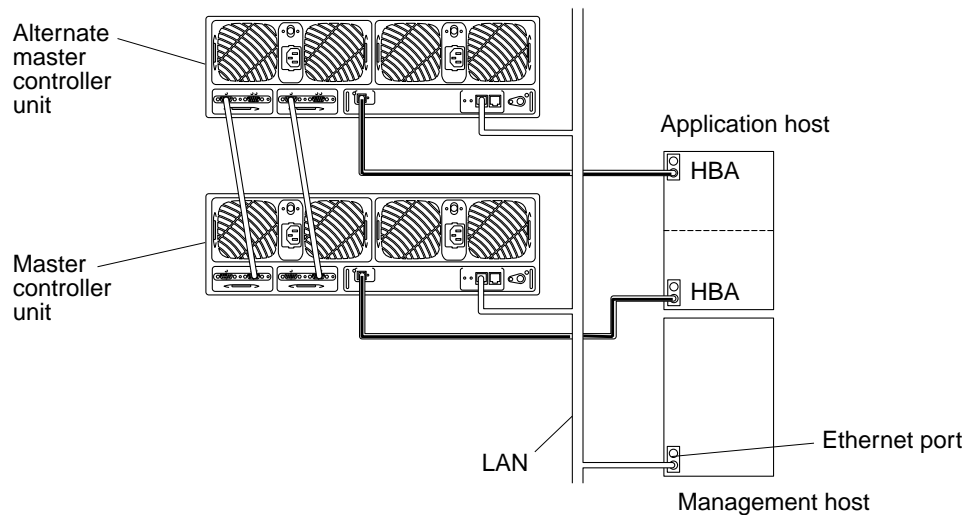

FIGURE 8-1 Sun StorEdge T3+ Array Enterprise Configuration Example
- The application host has two HBAs connected, as shown in FIGURE 8-1.